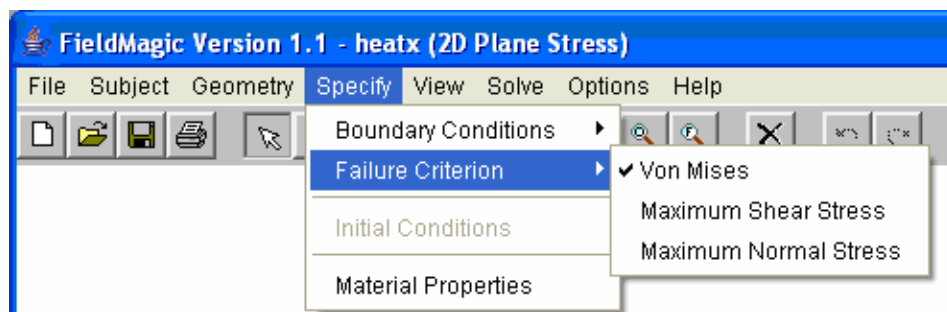

Figure 62. To change the failure criterion pick one of the available options under “Specify” → “Failure Criterion”
- Failure Criterion: For problems where the yield stress of the material is defined, the failure criterion may be changed. To do this, select one of the choices in the side menu of “Failure Criterion” in the “Specify” drop-down menu (Figure 62). If a yield stress is defined for the material, the final solution figure will show which areas fail and which do not according to the specified criterion. If the yield stress field is left blank, this figure will not be generated.